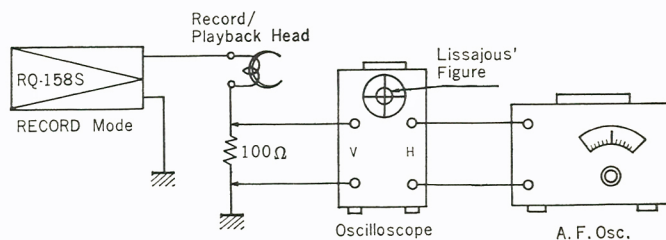

Fig. 3
Measuring Circuit: Refer to Fig. 3.
1. As shown in Fig. 3, insert a $100\ \Omega$ resistor to ground lead wire of Record Head and connect vertical axis of Oscilloscope across resistor; connect horizontal axis of Oscilloscope to output terminal of AF Oscillator.